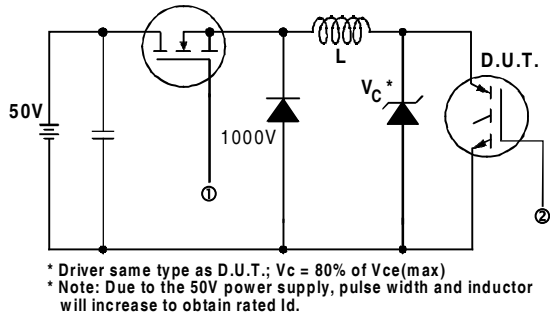

Fig. 13a - Clamped Inductive Load Test Circuit
- ② $V_{CC} = 80\%(V_{CES}), V_{GE} = 20V, L = 10\mu H, R_G = 10\Omega$, (See fig. 13a)
- ③ Repetitive rating; pulse width limited by maximum junction temperature.
- ④ Pulse width $\leq 80\mu s$; duty factor $\leq 0.1\%$.
- ⑤ Pulse width $5.0\mu s$, single shot.